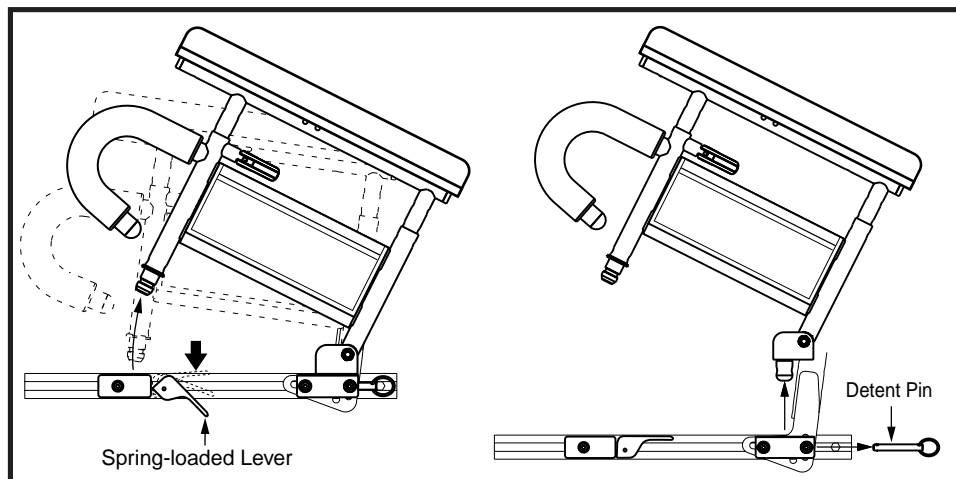

Figure 22. Two Post Height Adjustable Flip-Up Armrest Removal and Installation
The height adjustment range for the Two Post Height Adjustable Flip-Up Armrest is 4 in. (10.16 cm) in 1-in. (2.54-cm) increments. The total height adjustment range is 10-14 in. (25.4–35.56 cm). This range is measured from the top of the seat rail to the top of the arm pad. You can also flip the armrests up or remove them for transfer. See figure 22.
1. Push the spring-loaded lever downward and pull up on the front of the armrest. See figure 22.
2. Remove the detent pin from the back of the seat. See figure 22.
1. Set the rear of the armrest into the rear seat receiver and install the detent pin. See figure 22.